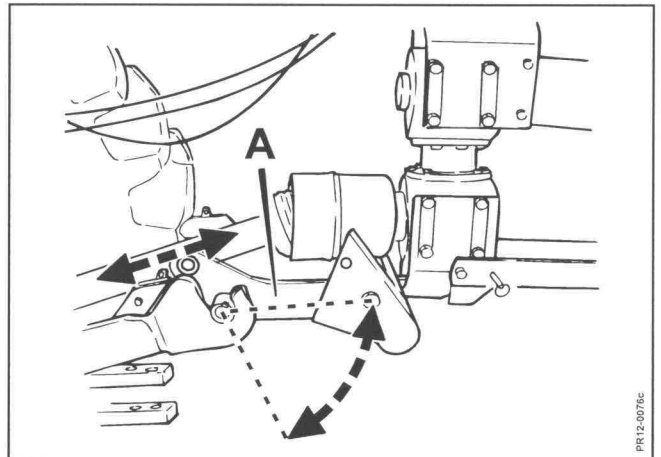

Fig. 2-5
- **more than 200 mm overlap in any position** (referring to situations where the safety drive (shock absorbers of the TOP SAFE system) will be released e.g. by collision against protruding stones, see Fig. 2-5).